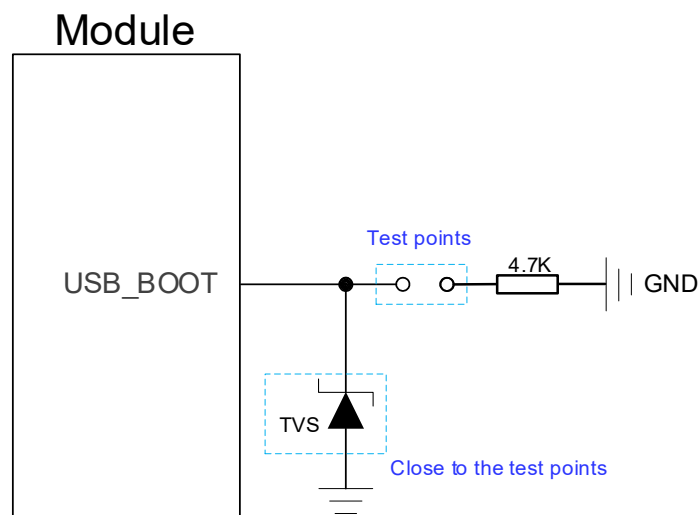

Figure 17: Reference Design of Forced Download Interface
2. Follow the above timing when using MCU to control module to enter the forced download mode. If you need to manually force the module to enter forced download mode, directly connect the test points shown in **Figure 17**.